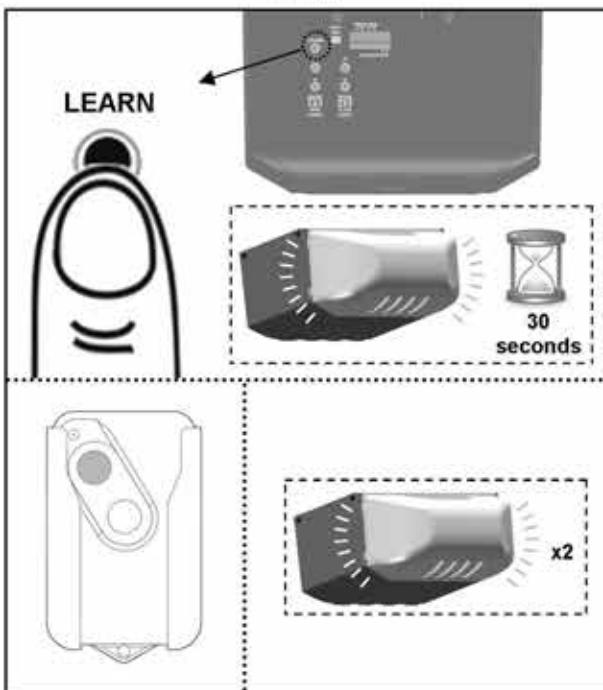

Fig.2
1. See Fig.2 to add a Remote Control. Press the "LEARN" button on the rear control panel of the Opener. The courtesy light will illuminate with an audible click*. The unit is now ready to learn a Remote Control.